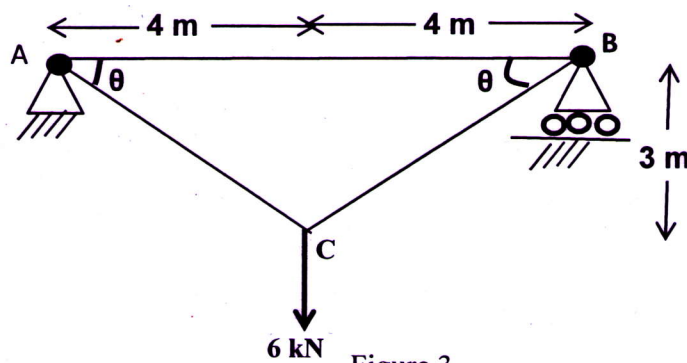

Figure 3
- 13 Determine the vertical and horizontal displacements of the point C of the pin-jointed frame shown in figure 3. The cross sectional area of AB is 100 sq.mm and of AC and BC is 150 sq mm each. Take $E = 2 \times 10^5 \text{ N/mm}^2$. 14